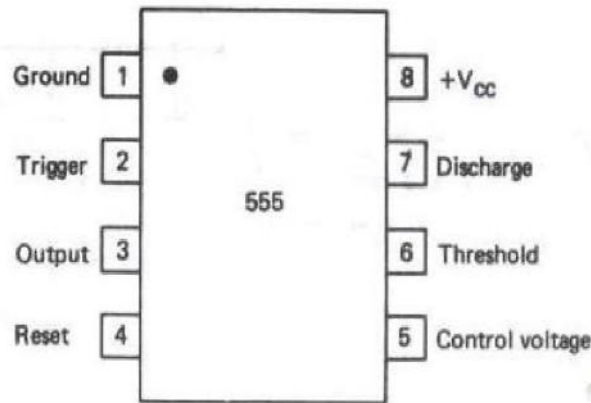

Fig 2.1: Pin diagram of 555Timer
**Pin 7:** Discharge. This pin is connected internally to the collector of transistor Q1, as shown in Figure 2.1(b). When the output is high, Q1 is off and acts as an open circuit to the external capacitor C connected across it. On the other hand, when the output is low, Q1 is saturated and acts as a short circuit, shorting out the external capacitor C to ground.